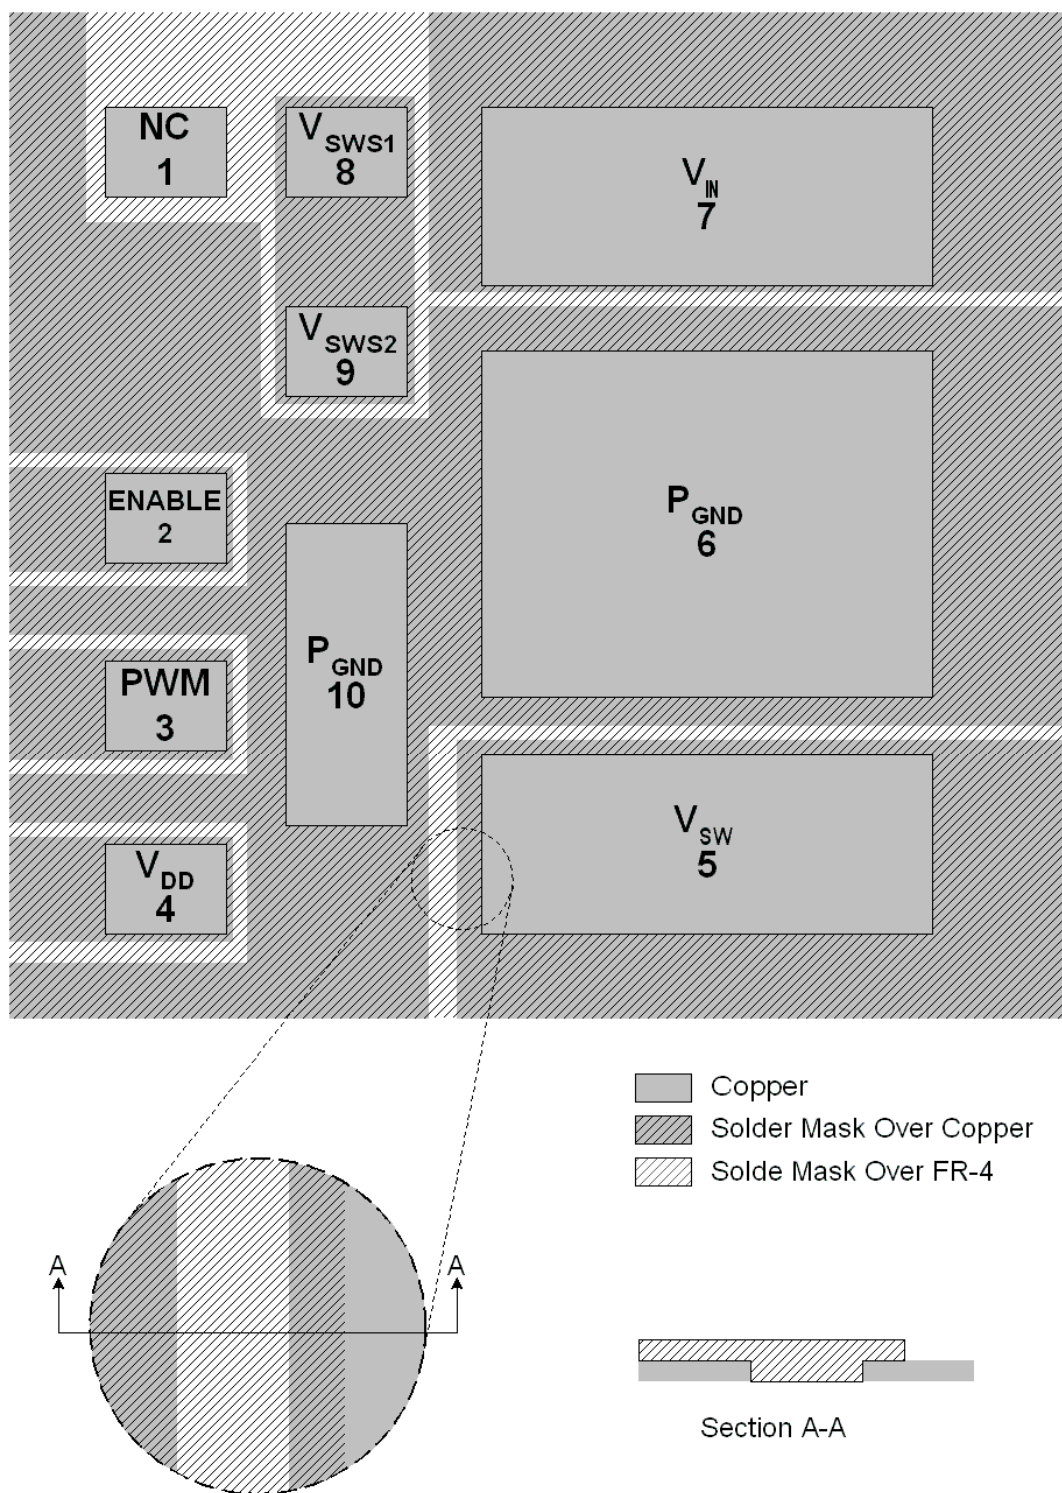

Figure 14 Top copper and Solder-mask layer of PCB layout
- All pads on the iP2004 footprint design need to be Solder-mask defined (see Figure 14). Also refer to International Rectifier application notes AN1028 and AN1029 for further footprint design guidance.